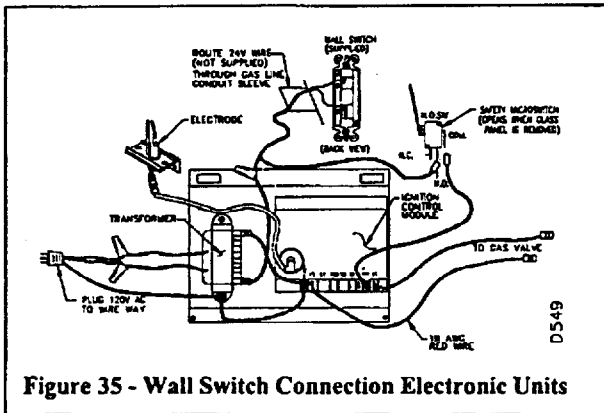
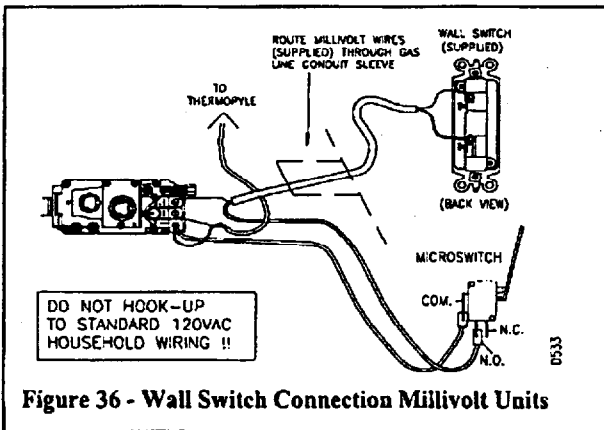

Figure 35 - Wall Switch Connection Electronic Units
Figure 36 - Wall Switch Connection Millivolt Units
The DVF36E series uses a 24 VAC current supplied from a transformer mounted on the ignition module and is prewired for easy connection to a wall switch (see Figure 35). The DVF36 versions use a self-generated millivolt current that allows you to activate the gas control valve directly, without the use of normal household electricity (see Figure 36). Both versions are supplied with a wall switch kit for ready connection and mounting.
2. Connect the WALL SWITCH to the gas control valve terminal marked TH or the ignition transformer wire with the 18 GA wire and connectors supplied with the appliance. Then connect the remaining wire to the microswitch with the connector provided. See figures 35 and 36.
2. Disconnect the wall switch wires from the terminals marked TH and TPTH on the control valve (see Figure 36, page 15).